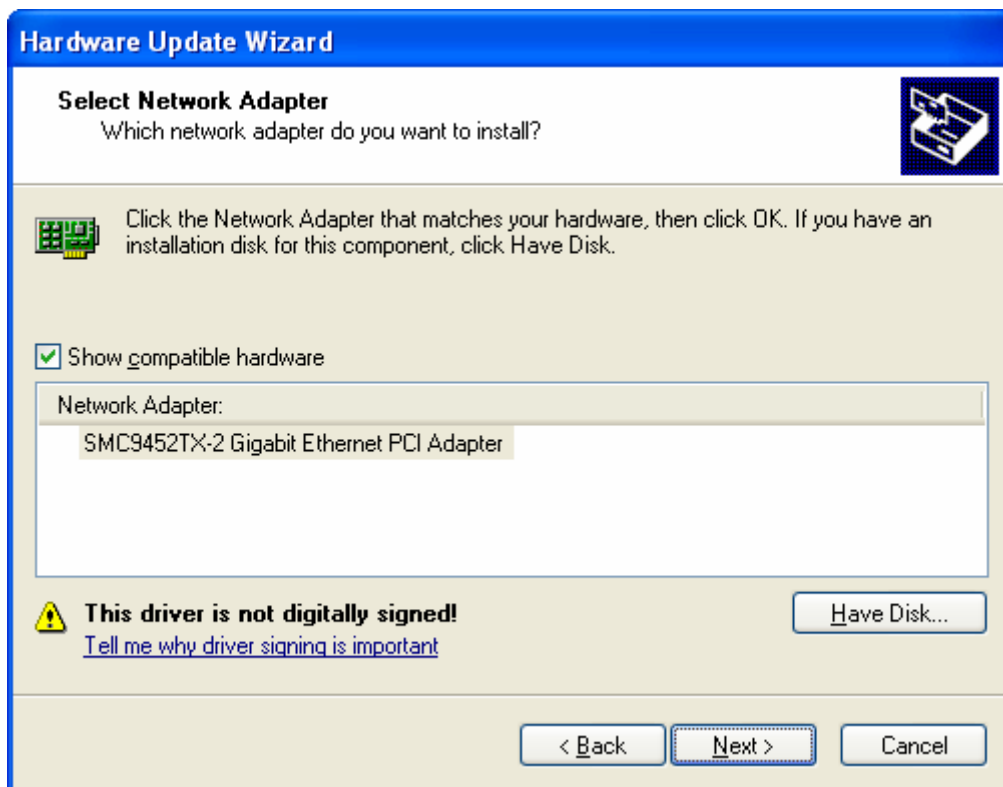

Figure 2-24
Step 11: Select the model of the Card as shown in Figure 2-24, then click **Next**.